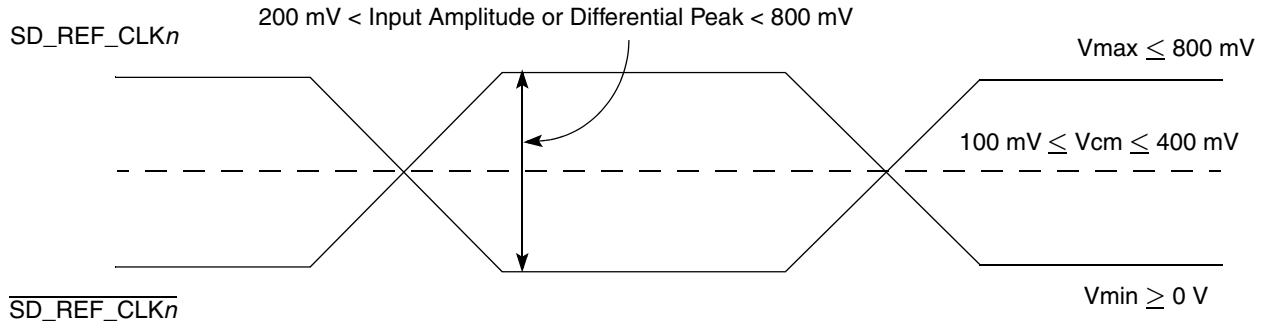

Figure 36. Differential Reference Clock Input DC Requirements (External DC-Coupled)
- For an external DC-coupled connection, as described in Section 2.20.2.1, “SerDes Reference Clock Receiver Characteristics,” the maximum average current requirements sets the requirement for average voltage (common mode voltage) as between 100 mV and 400 mV. Figure 36 shows the SerDes reference clock input requirement for DC-coupled connection scheme.